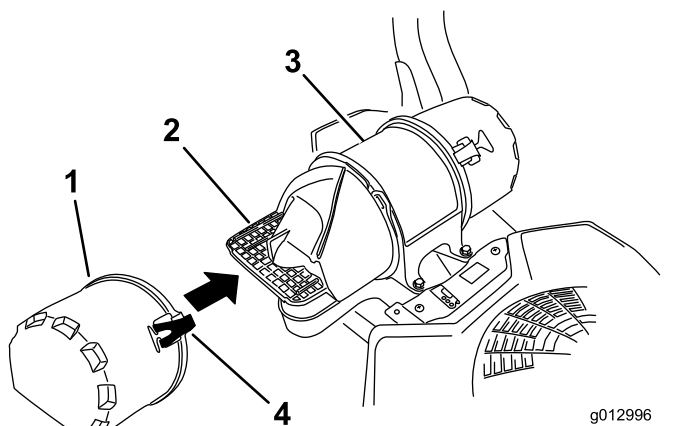

Figure 43
3. Release the latches on the air cleaner and pull the air-inlet cover off the air-cleaner body (Figure 43).
5. Install the air-inlet cover and secure it with the latches (Figure 43).